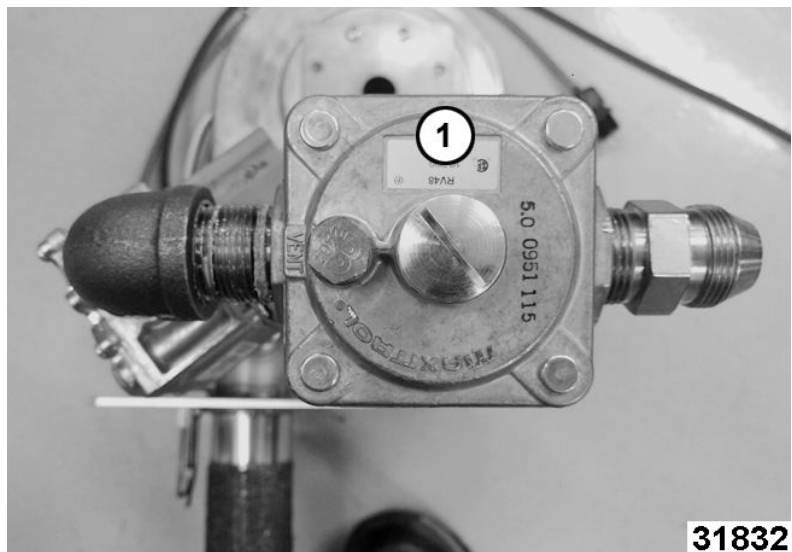

Fig. 12
10. Remove regulator (1, Fig. 12).